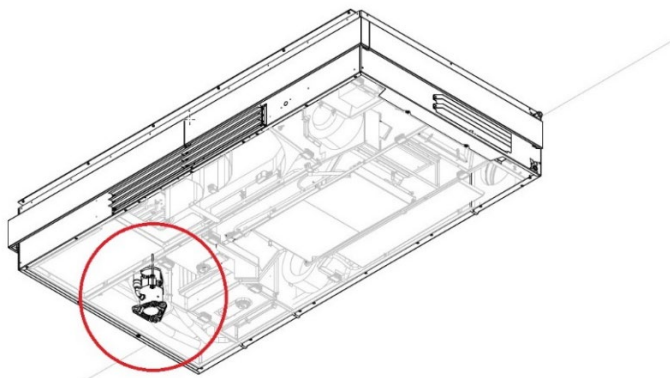

Figure 21: Compressor
1. Locate the compressor, see Figure 21 below.